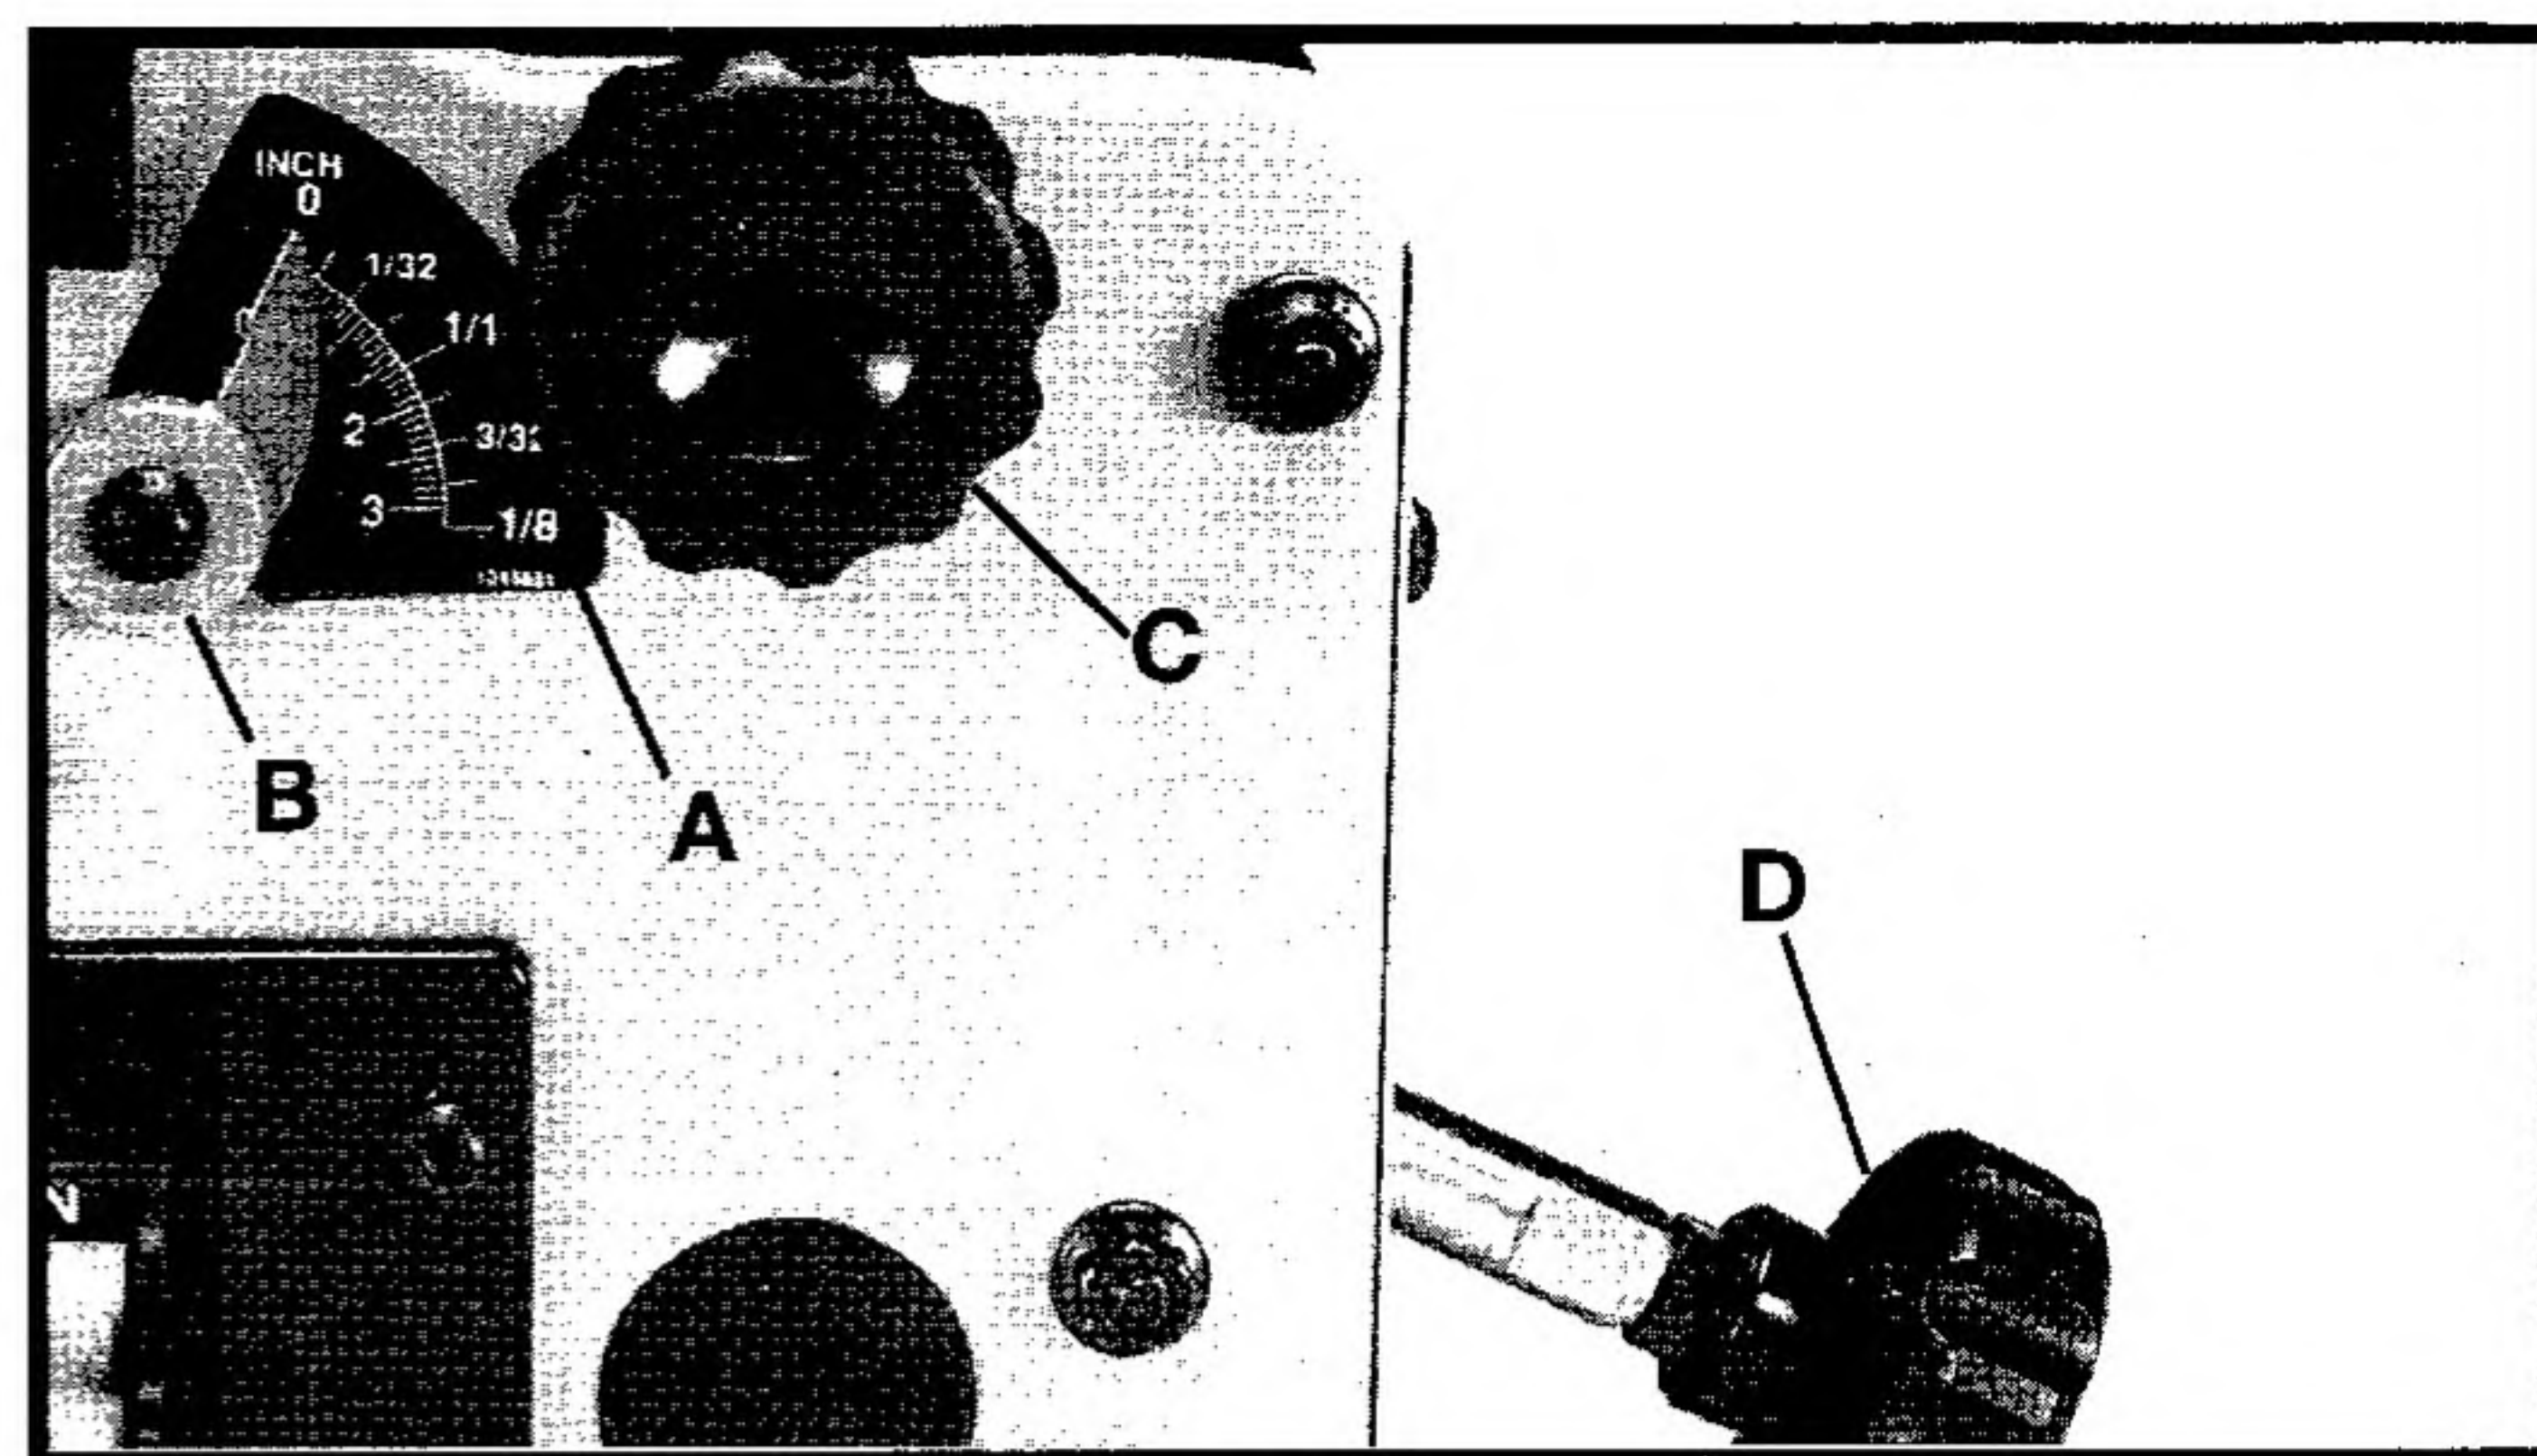

Fig. 24
The jointer can be set to cut any depth from a very thin shaving to 1/8" deep. A dual English/Metric scale (A) Fig. 24, and pointer (B) are provided to indicate the depth of cut. To adjust for depth of cut, loosen lock knob (C) and turn adjusting knob (D) clockwise to lower and counterclockwise to raise the infeed table. Raising the infeed table decreases the depth of cut, while lowering it will increase the depth. After the infeed table is at the desired setting, tighten lock knob (C).